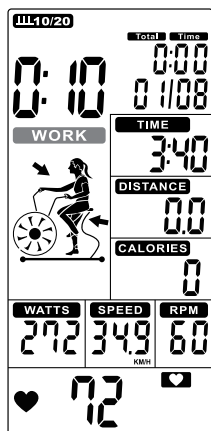

Figure 25
- ③ Cycle time counts down from 20 to 0 and **WORK** flashes once per second . Meantime windows displays rotation animation and count down from 4 minutes. Then TOTAL TIME, DISTANCE, CALORIES, WATTS, SPEED & RPM start calculating, counting displays '01/08'(Figure 25).